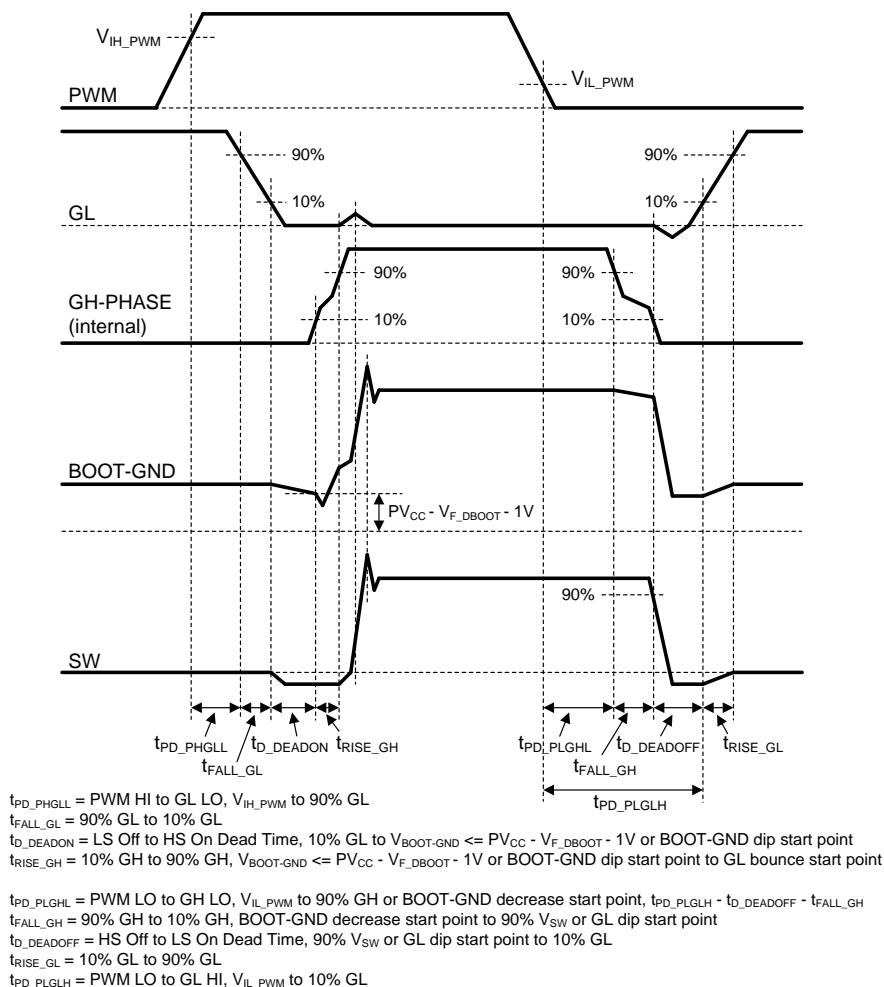

Figure 23. PWM Timing Diagram
- The timing diagram in Figure 23 assumes very slow ramp on PWM.